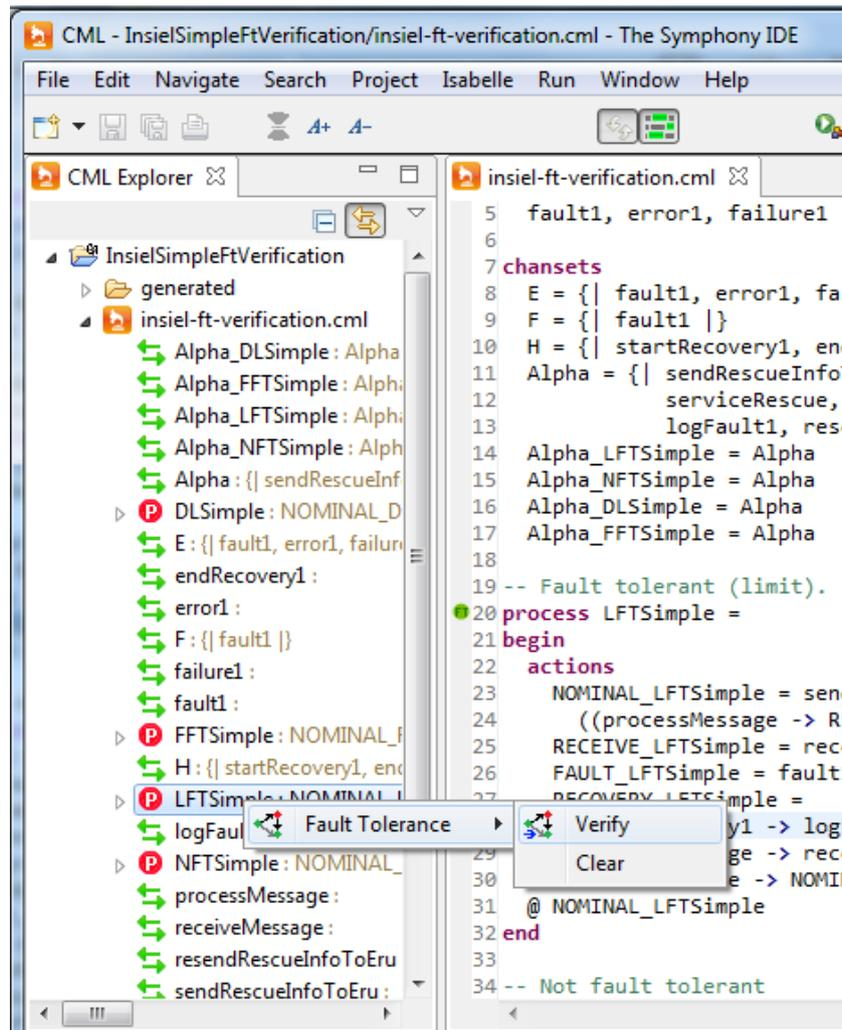
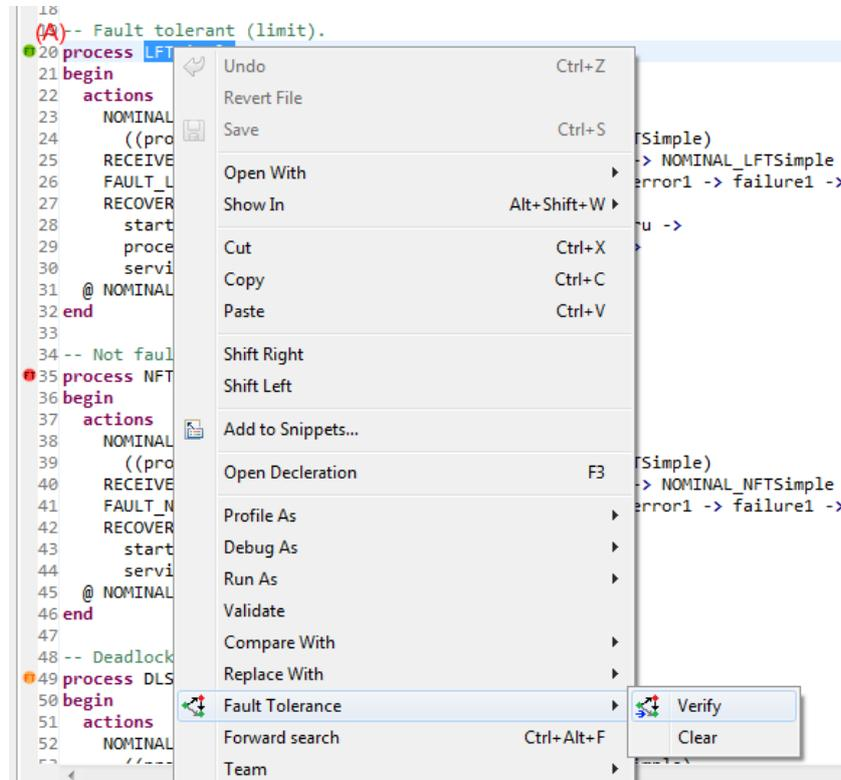

Figure 23: Fault tolerance verification menu on the project navigator
Figure 24: Fault tolerance verification menu on the CML model
To verify a CML model with the Fault Tolerance Plugin, open the CML file in the Symphony tool platform, right click on the relevant top-level CML process (either on the project navigator (as shown in Figure 23) or on the CML model (shown in Figure 24)), select the “Fault Tolerance” menu item and click “Verify”.
The possible messages for errors, warnings and successes are shown as markers beside the top-level CML process, as shown in Fig. 24 (A), and are described in Table 5. The elements in square brackets ([]) are replaced by actual values. For example, replace [property] with “Semifairness” and [system] with the process “P”. Fault Tolerance Plugin messages are also shown in the Markers pane. If this view is not shown, select the menu “Window” → “Show View” → “Other...”, then select “General”/“Markers”.